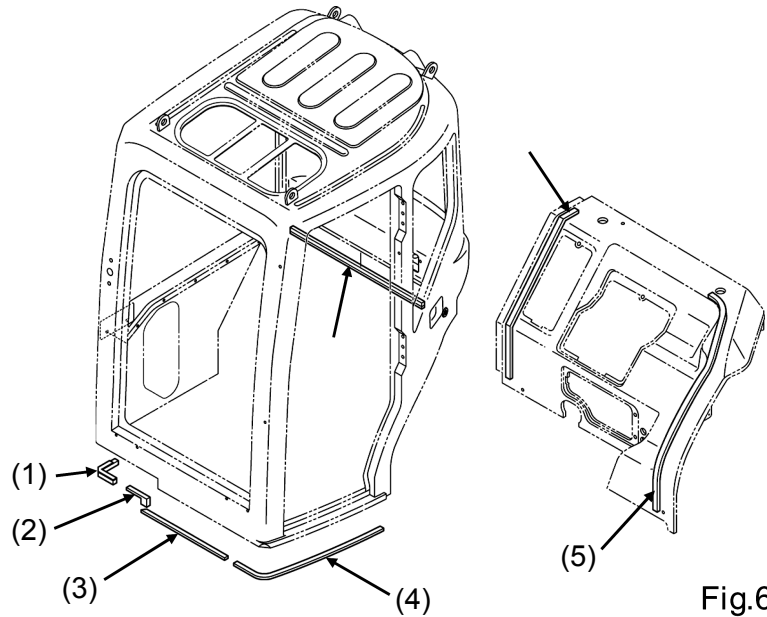

Fig.6
- Secondly, attach the seal rubbers to the ROPS cabin and the bonnet. (Fig.6, Fig.7)
- i) After set the rubbers (1)(2)(3)(4) to base frame of the ROPS cabin first of all, touch the edge face of seal rubbers (1)(2)(3)(4) to them without fail. (A) Also, align face of the seal rubbers with the front line of the base frame of the ROPS cabin. (B)
- ii) Align face of the seal rubber (6) with the inside line of the corner pipe. (C)
- iii) Touch the edge face of seal rubber (7) to the wall of the ROPS cabin. (D) And attach the seal rubber (8) into the ditch of the base frame of the ROPS cabin.
- iv) Attach the seal rubber (9) as the soft side comes upward. (E) And touch other edge face of it to the left swing cover. (F)